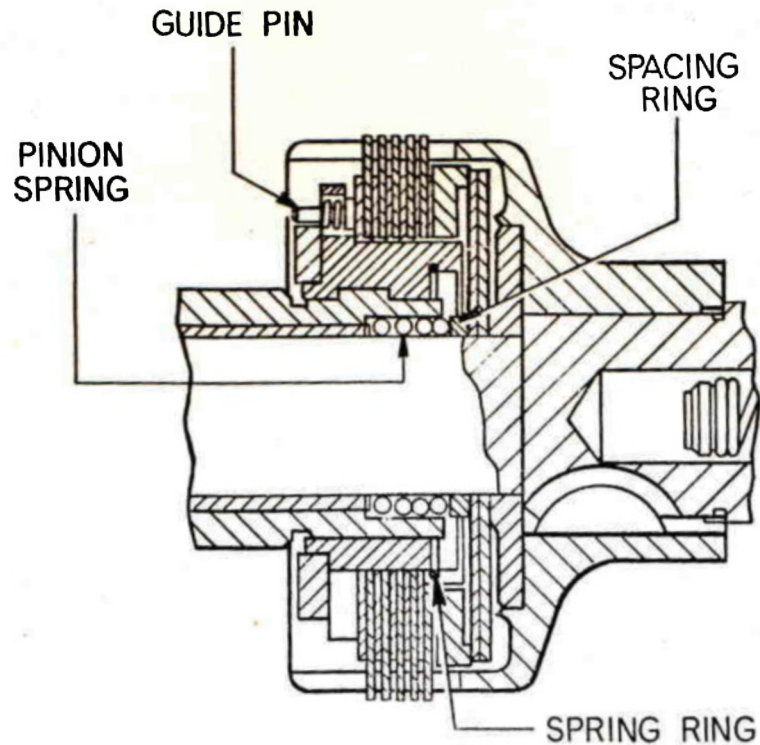

Fig. 7. Section through clutch assembly
NOTE: On later production models of SL5, BS5 and U6 starters a modified clutch has been fitted incorporating guide pins, a spring locking ring and a new pinion spring with spacing ring and these should be fitted to any starters of this type when under repair. See Fig. 7.
6. Assemble the clutch inner race complete with clutch plates and spring ring (if fitted, see Fig. 7).